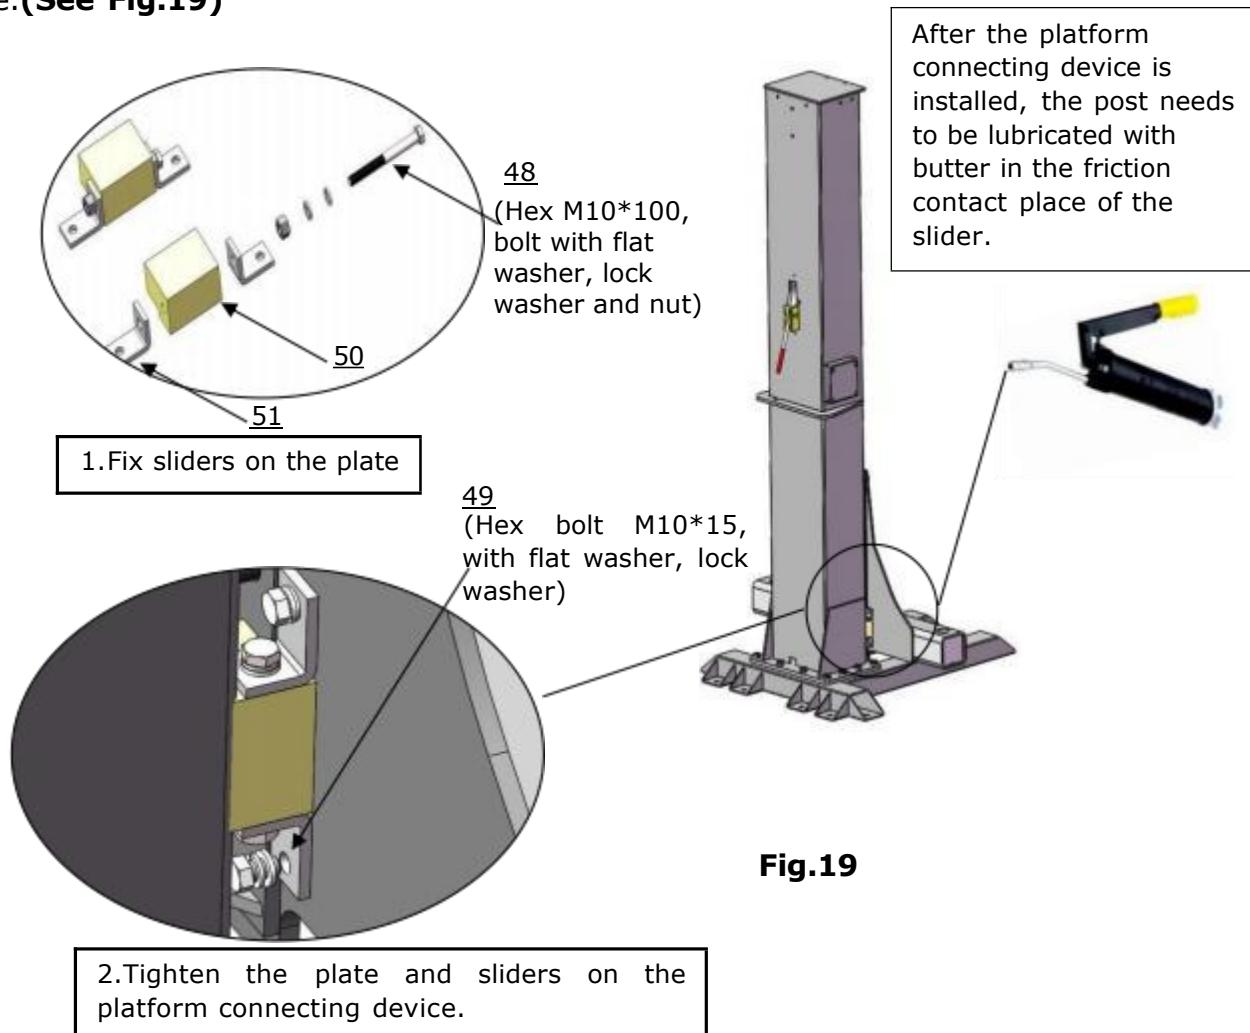

Fig.19
2. Fix the sliders on the plate, then tighten the plate and sliders on the platform connecting device.(See Fig.19)